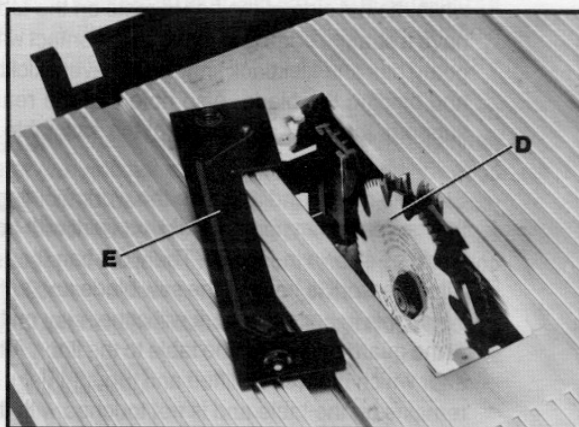
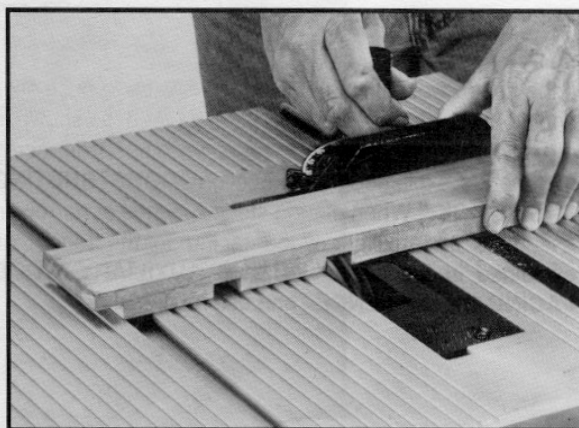

Fig. 55
Fig. 56
The dado head set (D) Fig. 55, is assembled to the saw arbor in the same manner as the saw blade. The inside and outside blade flanges are not used. The guard, splitter and anti-kickback finger assembly cannot be used when dadoing and must be removed from the saw. In place of the guard, auxiliary jigs or fixtures and push sticks and featherboards should be used. Also the accessory dado head table insert (E) Fig. 55, must be used in place of the standard table insert. Fig. 56, shows a typical dado operation using the miter gage as a guide.